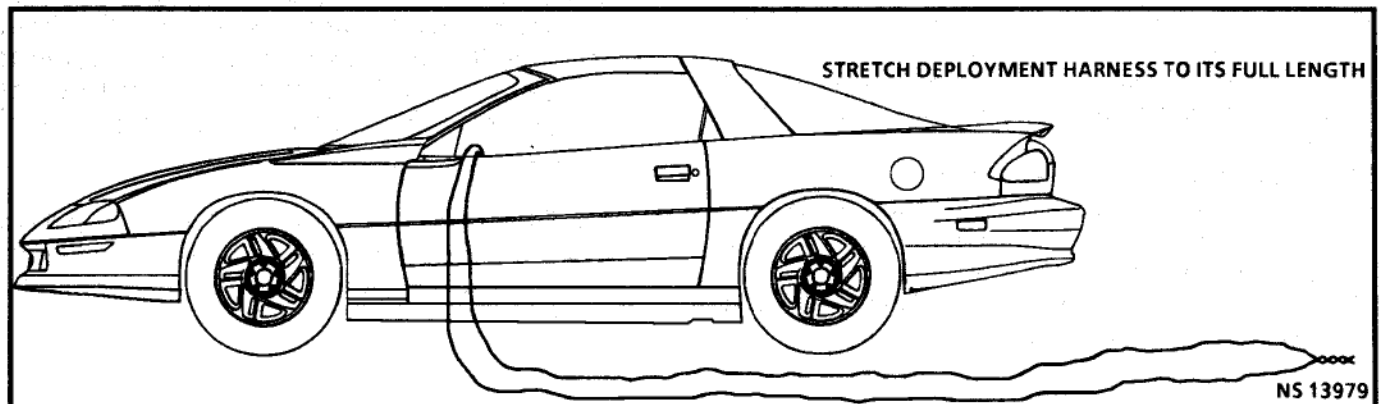

Figure 27 - Prepare Deployment Harness for In-Vehicle Deployment (Driver)
12. Connect the deployment harness to the driver inflator module, yellow 2-way connector at the base of the steering column. Route deployment harness out the driver side of the vehicle (Figure 27).
24. Stretch the driver and passenger deployment harnesses to their full length (Figure 27 and 30).